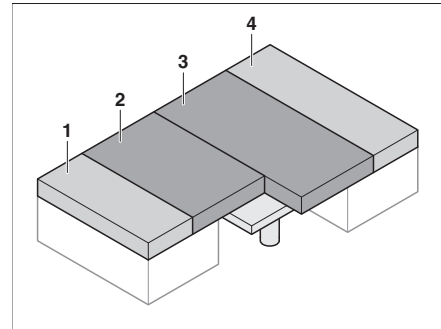

Fig. 80 After conversion
- Pull the seat cushions (Bild 80,2 and 3) into the centre.
- Insert the back cushions (Bild 80,1 and 4) between the seat cushions (Bild 80,2 and 3) and the exterior wall.